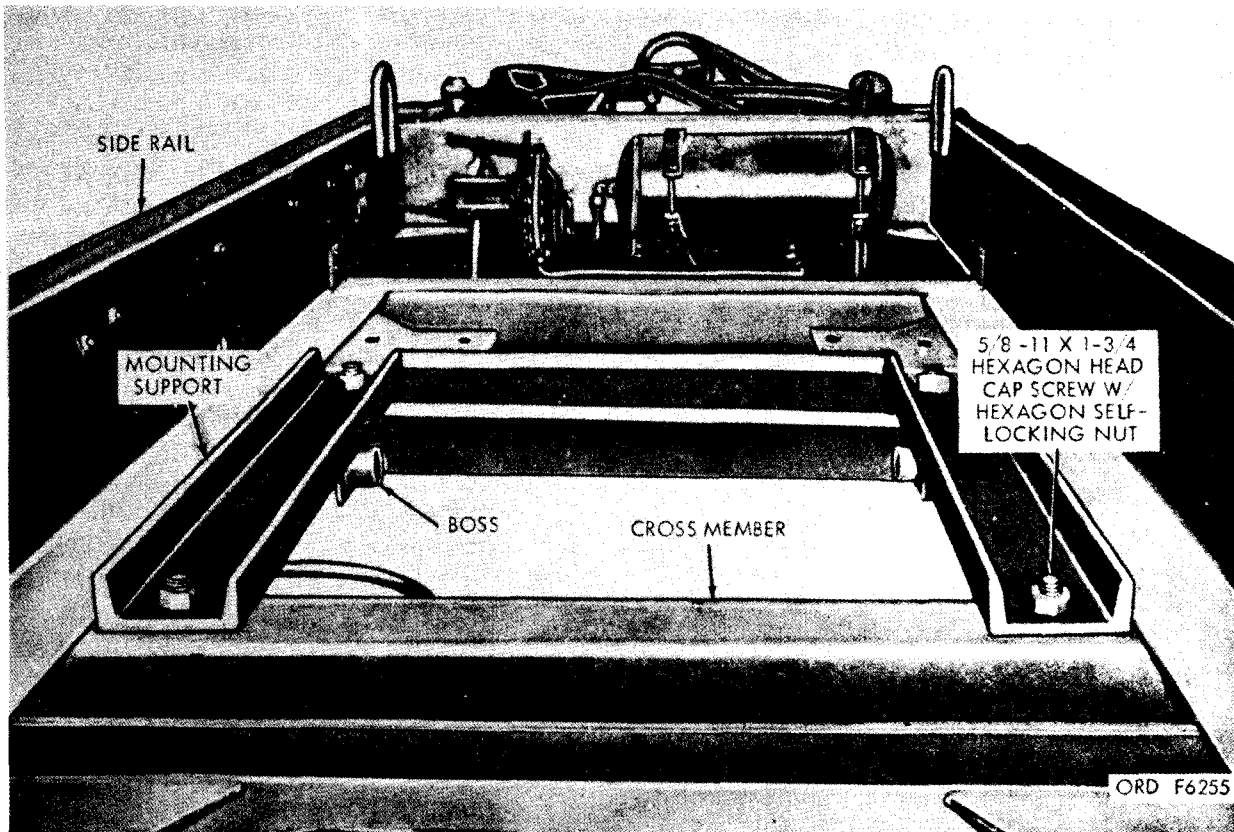

Figure 7. Position of mounting supports on trailer chassis.
a. Changing Position of Mounting Supports (fig. 7).
- (1) Remove the eight $\frac{5}{8}$ -11 hexagon self-locking nuts and eight $\frac{5}{8}$ -11 hexagon head cap screws from the two mounting supports and remove the supports from the factory installed position along each side of the trailer chassis. Discard the cap screws and salvage the nuts. Remove the two $\frac{3}{8}$ -16 hexagon self-locking nuts and the two $\frac{3}{8}$ -16 x $2\frac{1}{4}$ -inch hexagon head cap screws securing the support pins in the bosses of the mounting supports. Remove the support pin from each boss (use nuts, screws, and pins to mount generator set, *b* below).
- (2) Place a mounting support on each side of the trailer chassis, with open side up, boss facing inward, and across the two cross members. Position the mounting supports so the middle hole on each end of the support is centered over the sixth hole of the cross member inward from the side rail of the trailer chassis. Secure the mounting supports to the cross members with four $\frac{5}{8}$ -11 x $1\frac{3}{4}$ -inch hexagon head cap screws 5305-042-8685 and four $\frac{5}{8}$ -11 hexagon self-locking nuts 5310-050-3289 (salvaged, (1) above).